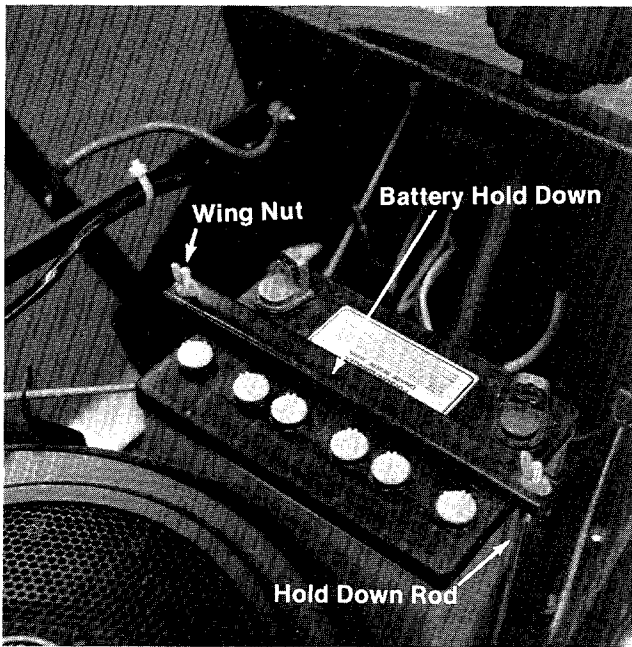

FIGURE 1
2. Secure the battery with the two hold down rods, battery hold down, lockwashers and wing nuts. See figure 1.